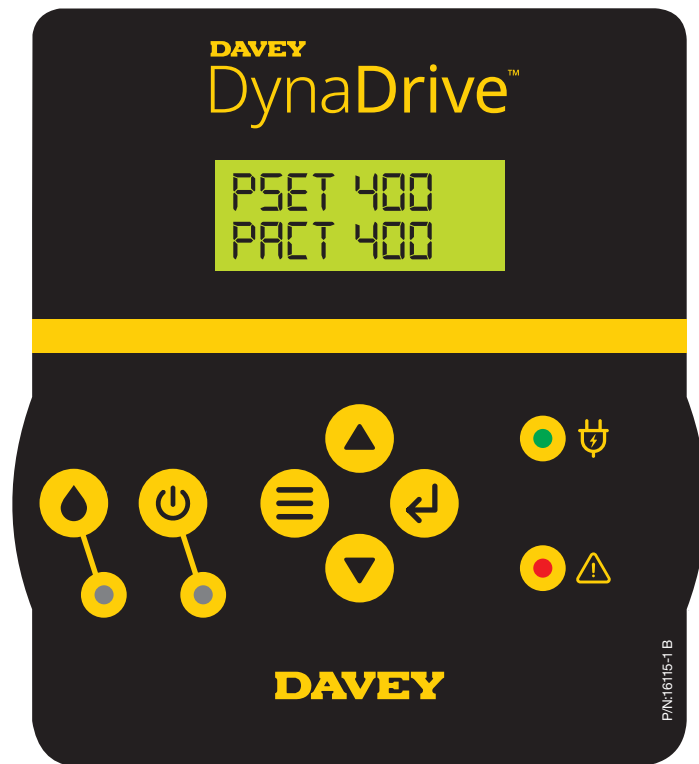

Figure 6.5
- The green  **Automatic LED** will turn off, see figure 6.5;